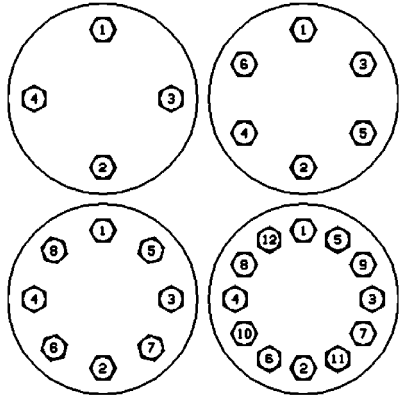

Figure 8: Torque Sequence
- Grease the threads of the valve body studs (6) and the bearing surfaces of the body nuts (7).
- Assemble the body nuts (7) onto the body studs (6) manually, and hand tighten evenly so that the internal parts are held in place. The face of the bonnet or bonnet flange should be parallel to the top surface of the valve body.
- Tighten the body nuts (7) evenly by applying the torque in the increments and the sequences as defined in Table 2 and Figure 8.